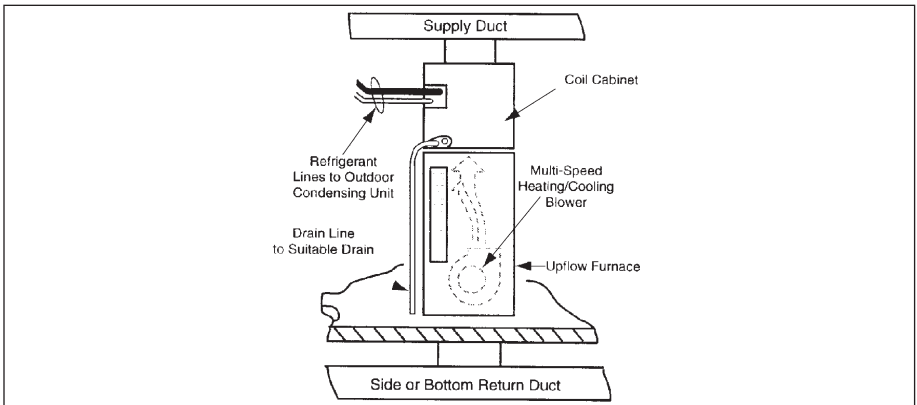

Figure 2.
4. Make a plenum to enclose the coil or drop the duct directly over it. Insulate as required. (See Figure 2)